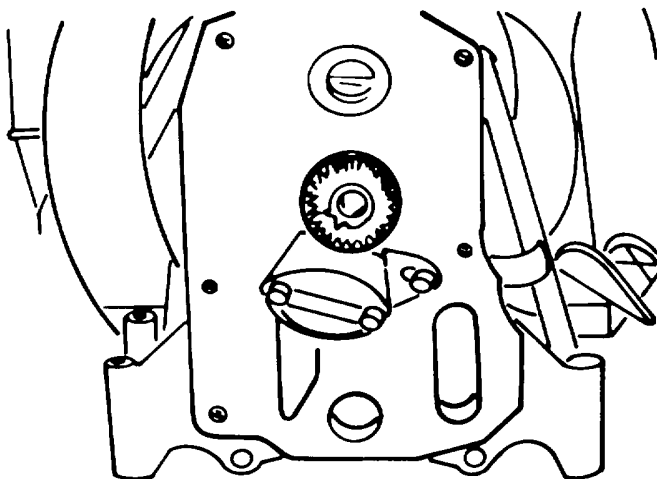

Figure A-35. Oil Pump
d. Oil Pump. Reinstall the oil pump. Note that there are two long screws and one short screw. The two longer screws pass through the bracket on the pump face. Be careful not to distort this bracket when torquing these three screws to engine specifications. (Figure A-35.)